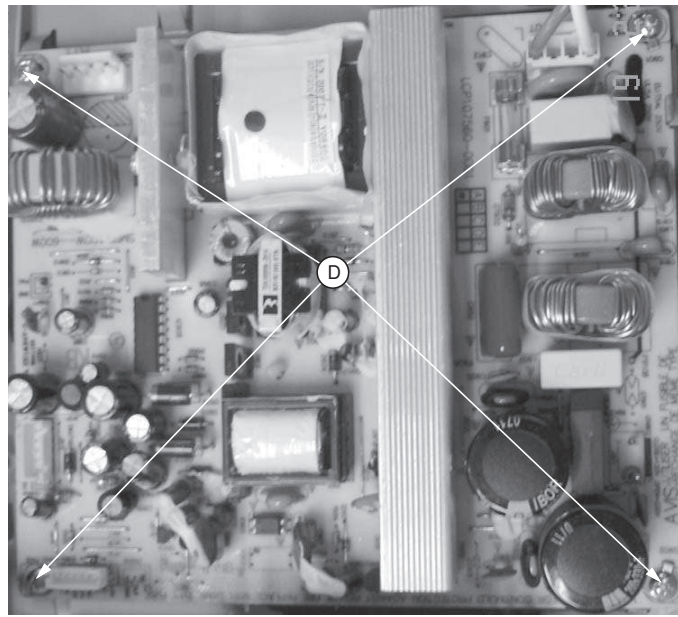

Figure 7
- 1) Loosen 4 screws " D " on the top of power board as shown in figure 7.